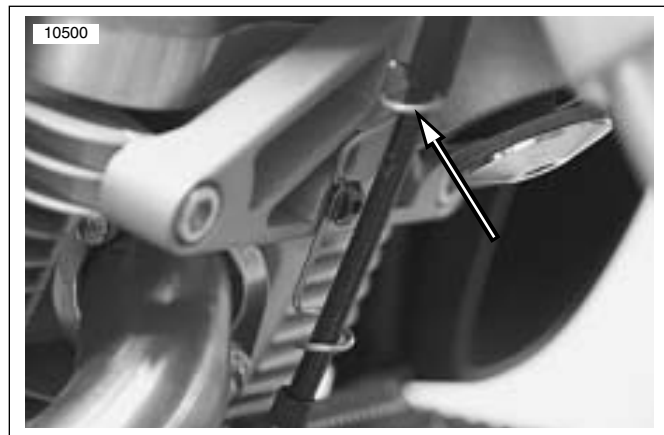

Figure 2-93. Clutch Cable Wire Form
1. See Figure 2-93. Remove wire form from front isolator.